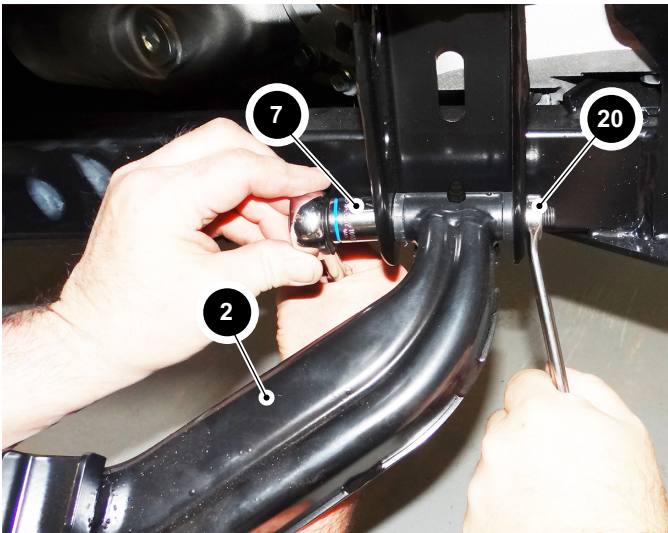

Fig. 10 Lower Control Arm
3. Remove the nut (28) and bolt (27) that secure the top of the strut assembly (6) to the vehicle frame (Ref. Fig. 1)(Ref. Fig. 10).